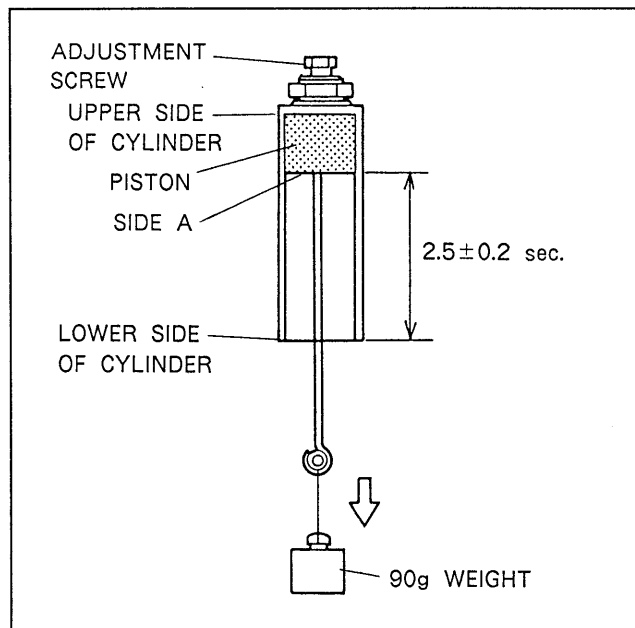

Fig. 6-20-3. Damping Adjustment
- 1) Hold the air damper vertically as shown in Fig. 6-20-3 and attach the 90 g weight at the tip of the air damper.